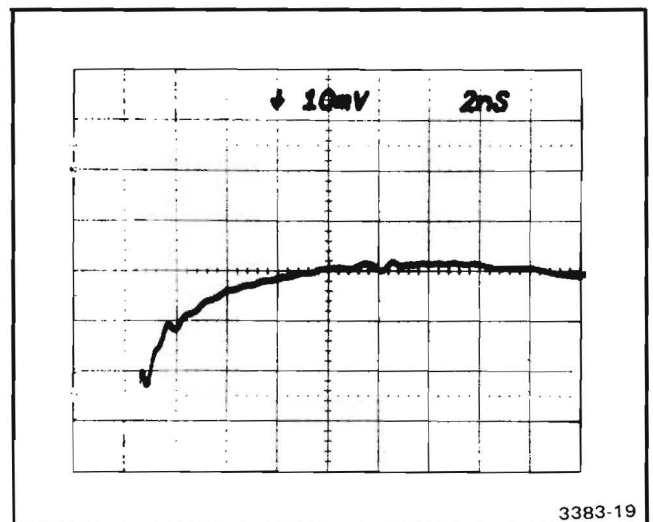

Fig. 4-9. Typical response curve as displayed on the sampling oscilloscope.
- l. Adjust—C940 for minimum aberrations with optimum risetime. A slight amount of front-corner overshoot is desirable. Refer to Fig. 4-9.